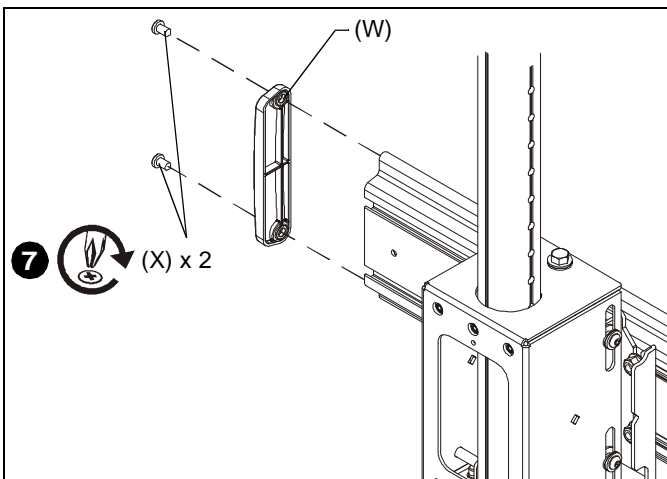

Figure 9
6. Repeat for remaining array head (FF).
7. Add one end cap (W) to each end of mounting rail, and fasten in place using two 1/4-20 x 1/2" Phillips self-tapping screws (X) for each end cap. (See Figure 9)